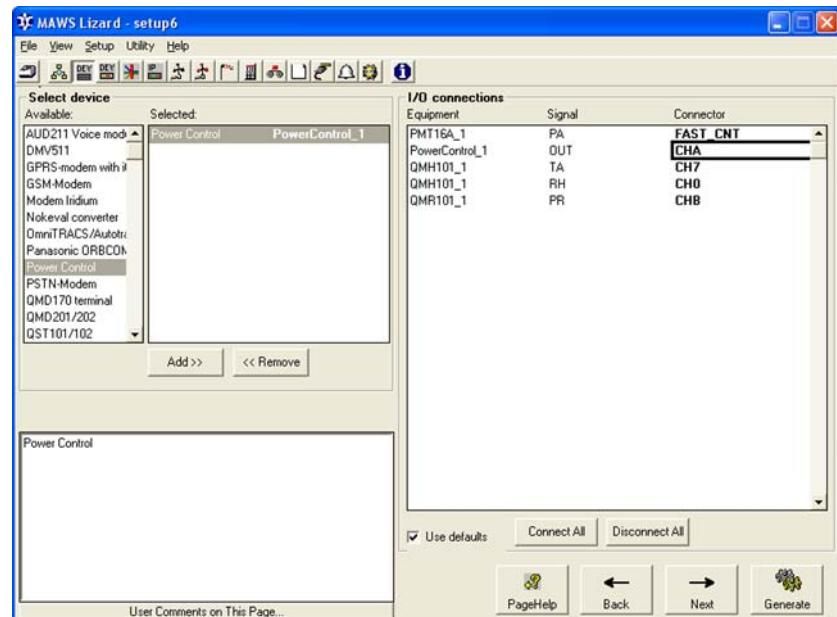

Figure 76 Devices View: Connecting Power Control
3. Select the output to be controlled from the **Connector** list as shown in Figure 76 on page 163.